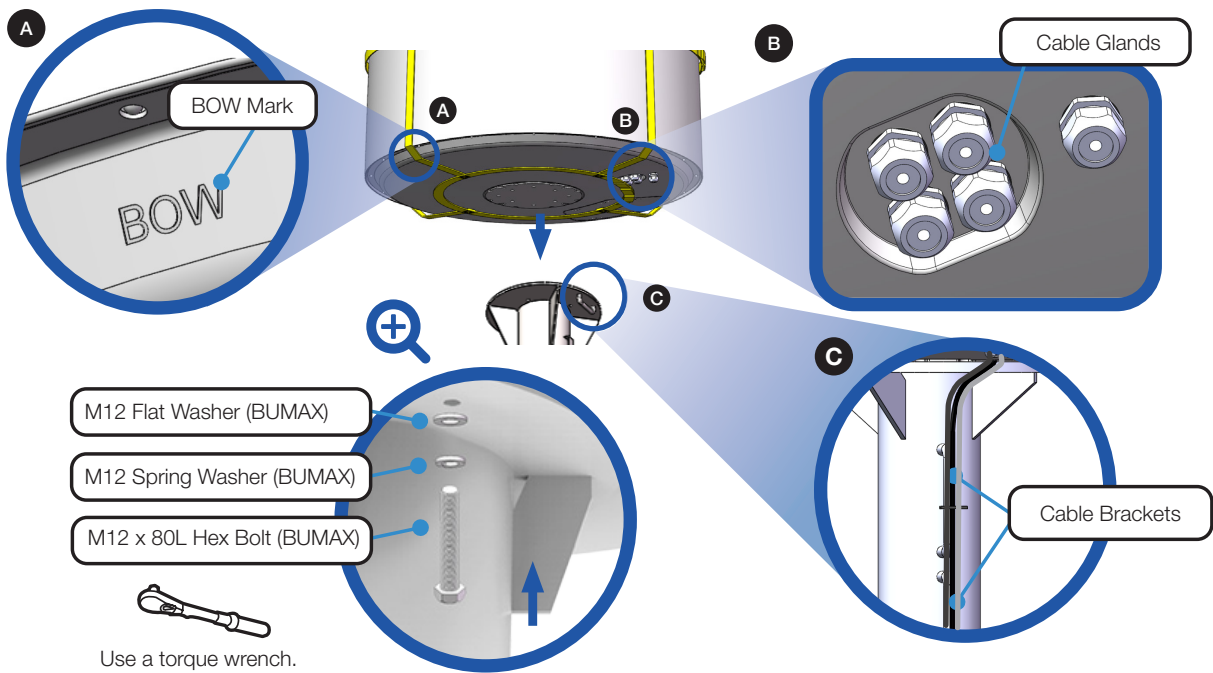
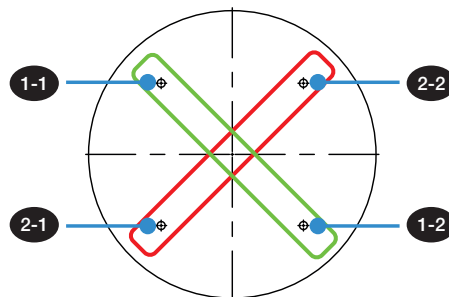

Figure 13: Installing Bolts for Antenna-Mast Assembly
Figure 14: Installing Sequence of Bolts
2. Lower the antenna onto the mast using the crane, making sure the mounting holes of the antenna are aligned with those of the mast. Check the positions of the BOW mark, cable glands, and cable brackets (see Figure 13) when mounting the antenna on the mast. Make sure the cable from the mast is aligned with the cable entry on the bottom of the antenna for stable connection.
3. Apply Loctite #263 to the bolt threads, insert the bolts and washers from under the mast into the built-in nuts on the bottom of the radome (see Figure 13), and then lightly tighten them by hand. Use a crisscross sequence as shown in Figure 14.